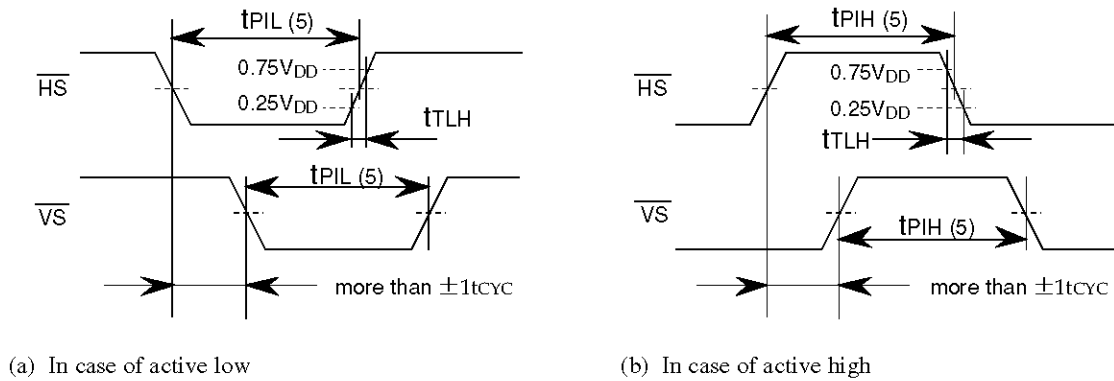

Figure 7 Pulse Input Timing Condition - 2
| | tPIH(5) tPIL(5) | $\overline{\text{HS}}, \overline{\text{VS}}$ | Display position controllable Each active edge of $\overline{\text{HS}}, \overline{\text{VS}}$ must be more than 1tCYC. Refer to Figure 7. | 4.5 to 5.5 | 10 | | tCYC | |
| Rising/falling time | tTHL tTLH | $\overline{\text{HS}}$ | Refer to Figure 7. | 4.5 to 5.5 | | 500 | ns | |